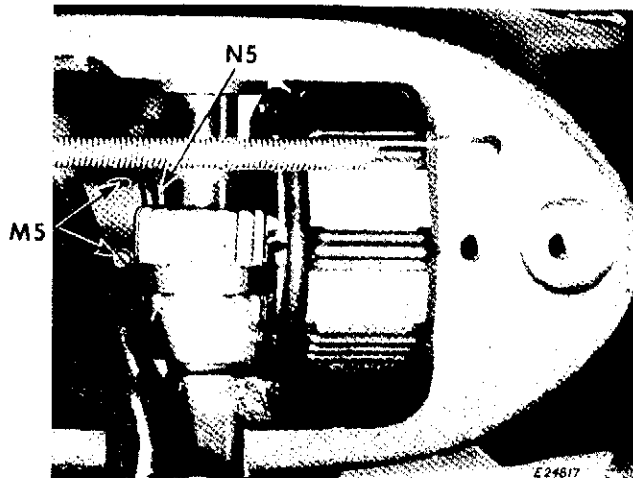

Fig. 84. Adjusting Needle Pendulum Movement
To time the pendulum movement of the needle bar, loosen two set screws **M5, Fig. 84** in the worm gear **N5, Fig. 84** in the gear box on top of the machine and free gear **N5** from arm shaft.
toward the operator or away from the operator while keeping gear **N5** in place by holding a screwdriver over one of two set screws **M5, Fig. 84**. When a desired setting is obtained, tighten one of the set screws **M5** and recheck pendulum movement. If results are satisfactory, securely tighten both screws.
9. If needle is not at correct height when the click is heard, loosen set screws **M5, Fig. 84** in worm gear **N5** on arm shaft and slide gear to right or left to correct the condition.
Release FASHION disc follower frame. If the FASHION disc follower frame stud seats in the square slot of the gauge, no adjustment of the worm gear **N5**, **Fig. 84** on arm shaft is necessary.
4. Loosen two screws **M5**, **Fig. 84** which hold driving worm gear to arm shaft.
7. Tighten securely one of two set screws, **M5**, **Fig. 84** on arm shaft driving worm gear.
9. Rotate arm shaft with hand wheel and securely tighten second screw **M5**, **Fig. 84** on gear **N5**.